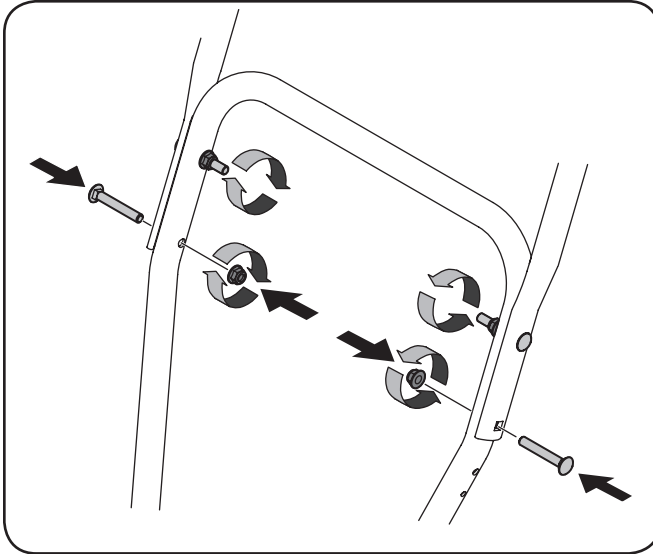

Figure 3-4
4. Reattach the two carriage screws and lock nuts removed earlier as shown in Figure 3-4.